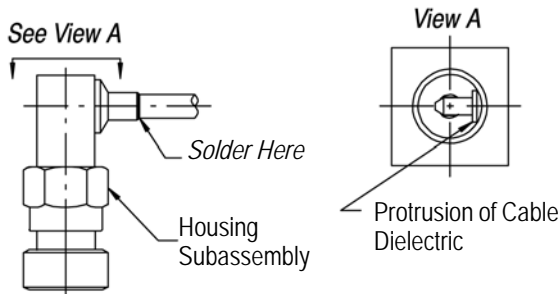

Figure 5
6. Solder the housing subassembly to the cable at the location shown in Figure 5. A protrusion of the cable dielectric as a result of the heat is acceptable. See Figure 5, View A.